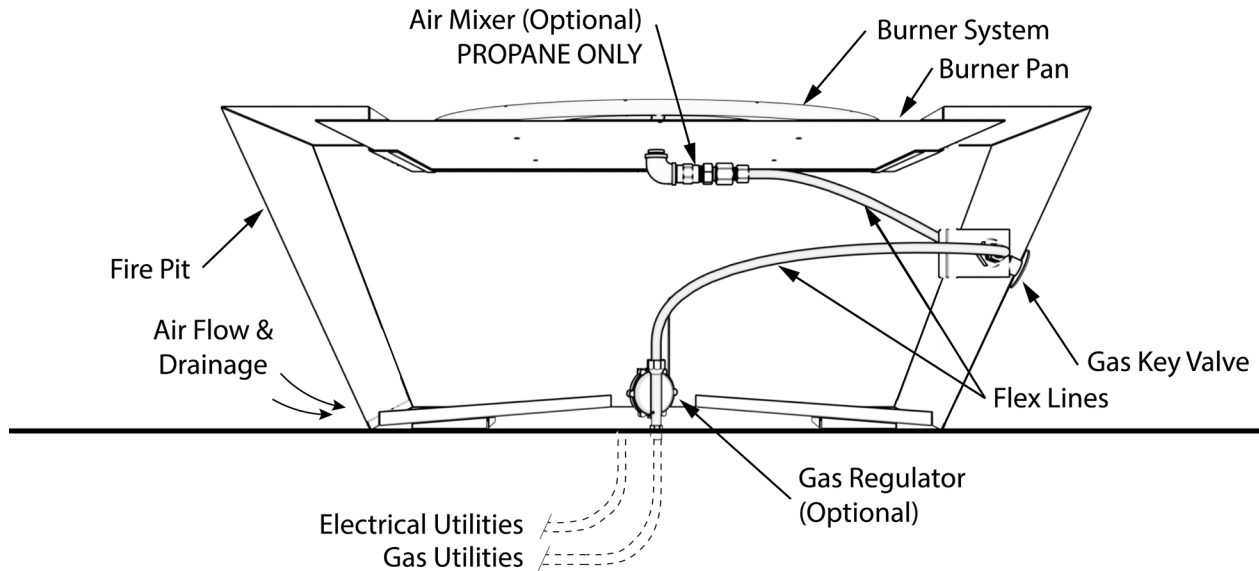

FIG. 5-1
- ⚠️ **PROPANE ONLY:** Add optional **Air Mixer** to system as illustrated in Fig. 5-1.